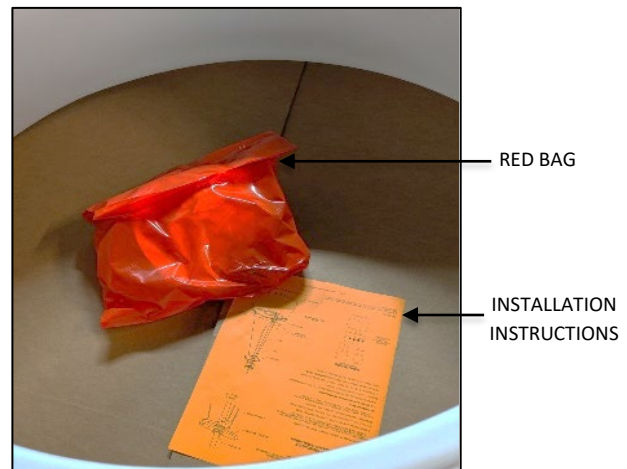

FIG.3 RED BAG AND INSTALLATION
2. INSTALLATION INSTRUCTIONS (shown in FIG. 3) - Please completely read the install instructions before starting installation.
3. RED BAG (shown in FIG. 3) contains below following items.